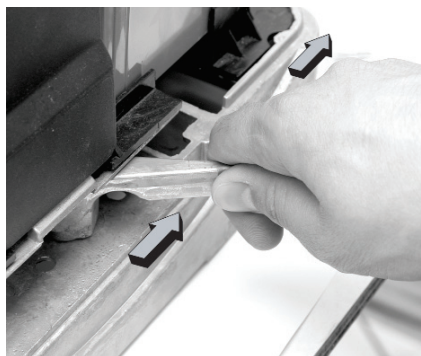

Fig. 5
- 3 - Release the motor pulling rightward the mechanic release lever (Fig. 5).
In case of mains failure, the back-up battery (option) guarantee the automation operation for a short period. If the battery is flat or not used release the motor manually by opening the cover with proper key (see Fig. 1A, 1B, 1C) and turn the release lever 180° counter-clockwise (Fig. 5). Close the cover again.